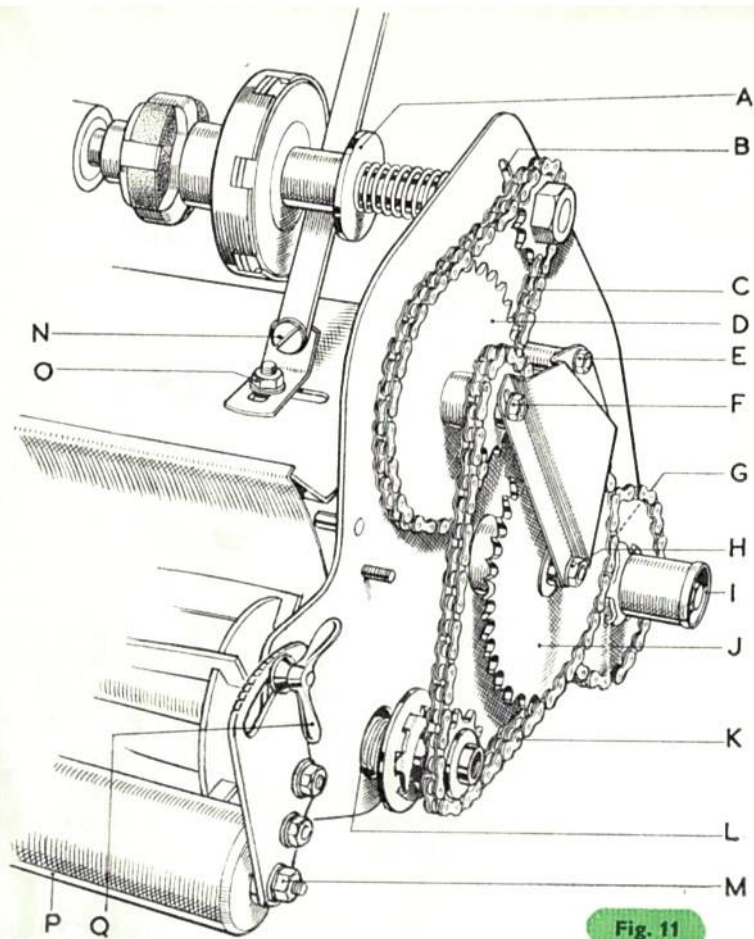

Fig. 11
1. Between the front rollers (P, Fig. 11) and on the shaft at each end. From time to time the front rollers and shaft should be removed, thoroughly cleaned and lubricated. Remove nut (M, Fig. 11) on either side of machine to release front roller shaft through slots provided. Remember to replace washers between rollers during re-assembly.
3. Clutch shaft for 14 in. model only (B, Fig. 11). The clutch shaft bearing on the 12 in. model is sealed and grease-packed, and does not require lubrication. Rear roller shaft bearing (Fig. 10) through a slot in side frame located between chain wheels and side frame. Cutter shaft bearing at point (L, Fig. 11).
4. On the spindles on either side of the intermediate chain wheels (D and J, Fig. 11).
5. Sliding member of roller drive release (I, Fig. 11).
6. Clutch pivot pin (N, Fig. 11).
Clutch to upper intermediate chainwheel (C, Fig. 11) and cutters to lower and upper intermediate chainwheels (K, Fig. 11). Loosen nuts (F, Fig. 11), one on either side of side frame, securing spindle of upper intermediate chainwheel. Both chains can now be adjusted by moving the upper intermediate chainwheel assembly in the desired direction. Allow a little free movement of chains. Tighten both nuts firmly. Check that there are no "tight spots" on chains by rotating cutters backwards. Re-adjust if necessary.
For height of cut. Slacken off wing nuts (Q, Fig. 11) one on each side of machine, and raise rollers for a shorter cut and lower for a longer cut. Tighten nuts firmly.